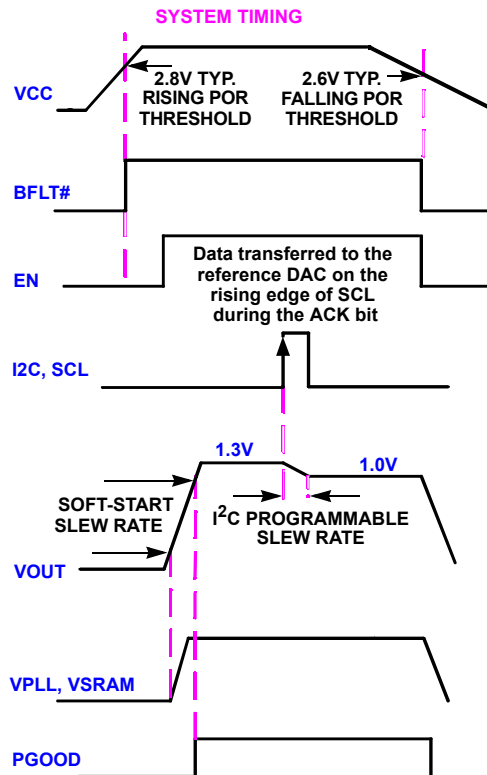

FIGURE 16. SYSTEM TIMING DIAGRAM
Upon application of input power to the ISL6271A, the power good signal (PGOOD) will switch from low to high after four conditions are met - (1) VCC exceeds the power on reset “rising threshold”, (2) the EN pin is high and (3) the LDO input voltage (LVCC) is greater than 1.6V, (4) All three outputs are in regulation. Figure 16 illustrates this start-up sequence. The outputs are powered on under a soft-start regime with the core output voltage defaulting to 1.3V (unless under VID control) and the LDOs at their fixed output levels. Once the outputs are in regulation, the ISL6271A will respond to a voltage change command via the I²C bus.